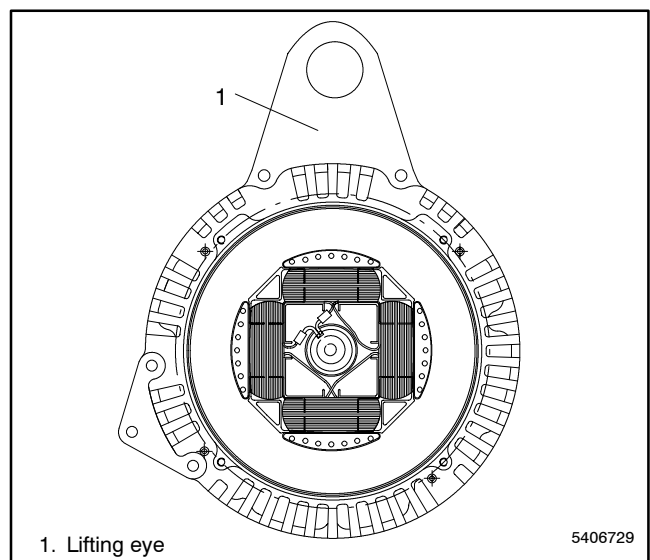

Figure 6-29 Lifting Eye
3. Position adapter on engine. Attach lifting eye to adapter/engine with two mounting bolts and lock washers. See Figure 6-29. Reinstall magnetic pickup, if removed, and verify flywheel/magnetic pickup air gap of 0.51–1.27 mm (0.020–0.050 in.).